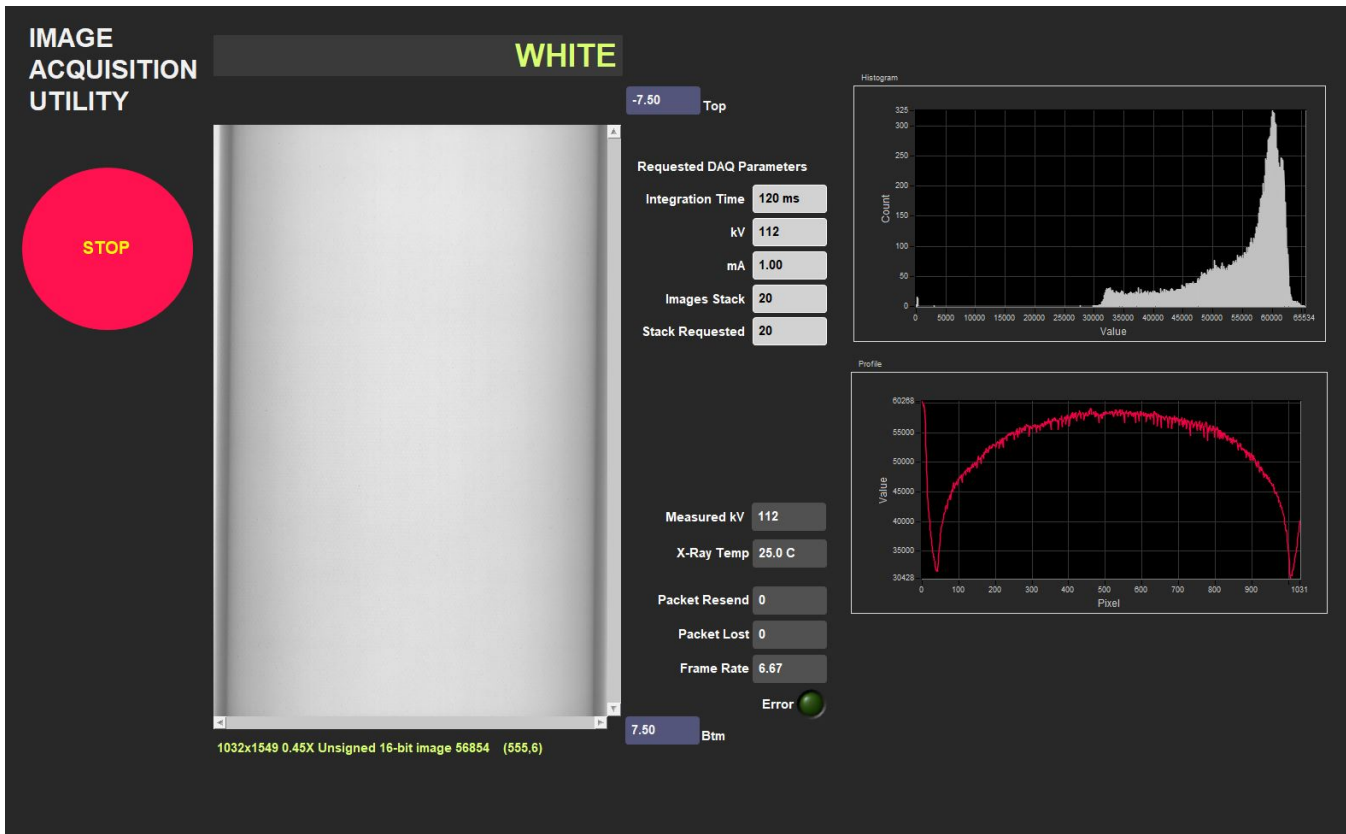

Figure 9. White Image Acquisition Window
- a. The **X-Ray Image Acquisition** window will open (Figure 9).